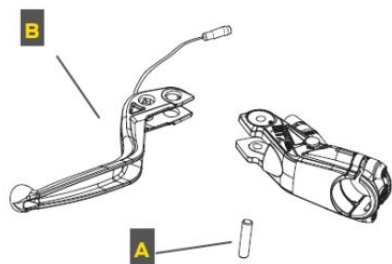

Fig 27
10.3 Dismount brake handle(see Fig 27)